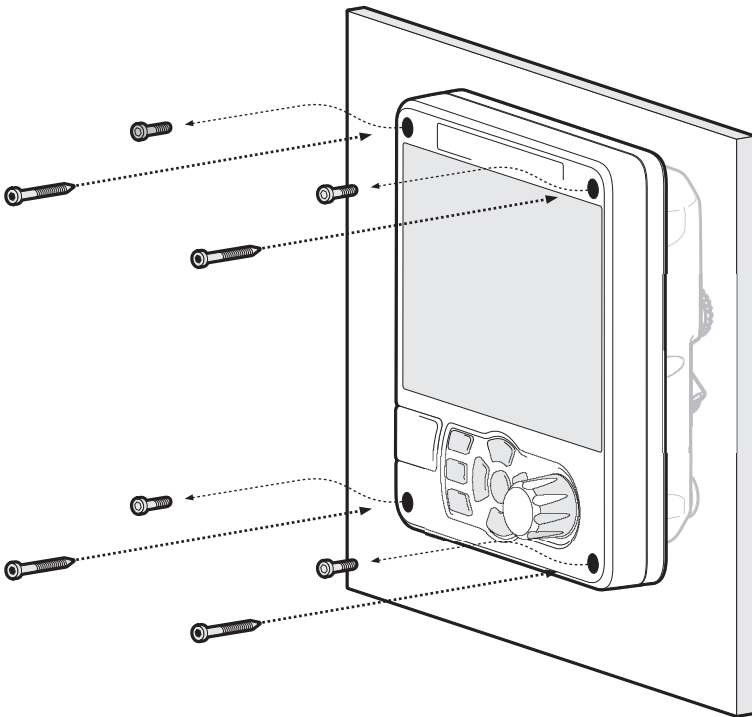

Figure 6 Panel mounting the AIS transceiver
- The AIS transceiver can be panel mounted using the four self tapping screws provided. Please refer to Figure 6. for guidance. Access behind the panel is required when using this mounting option.
To panel mount the unit it is necessary to remove the 4 off socket cap screws recessed in front of the unit. See Figure 6.